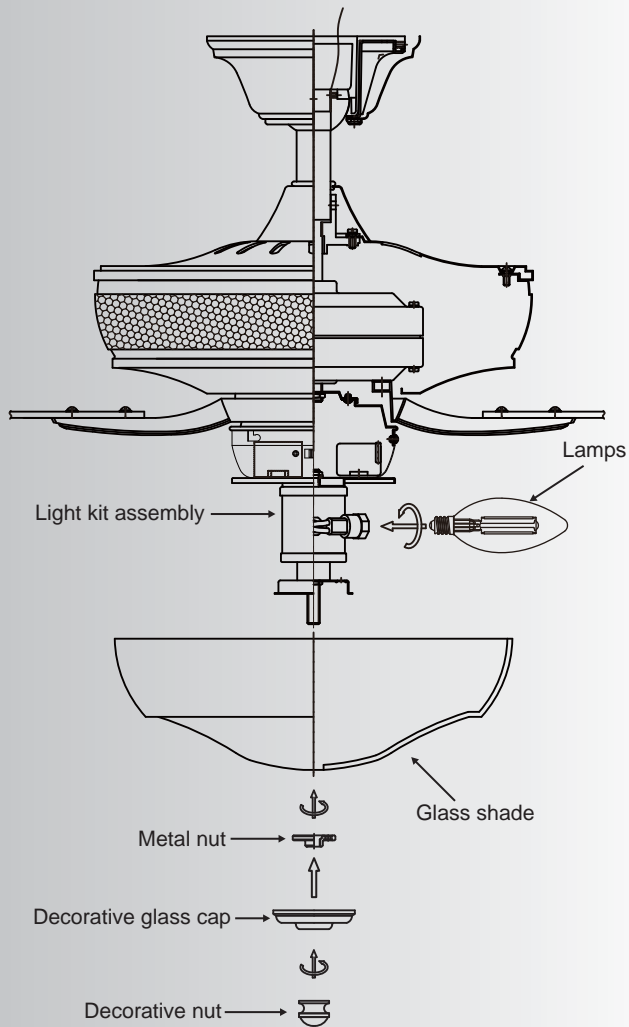

Fig. 20
Step 2. Remove the decorative nut, glass cap and metal nut from the light fixture stem. Place the glass shade over the light fixture stem and secure the shade with a metal nut (rubber side touching the shade). (Fig. 20)